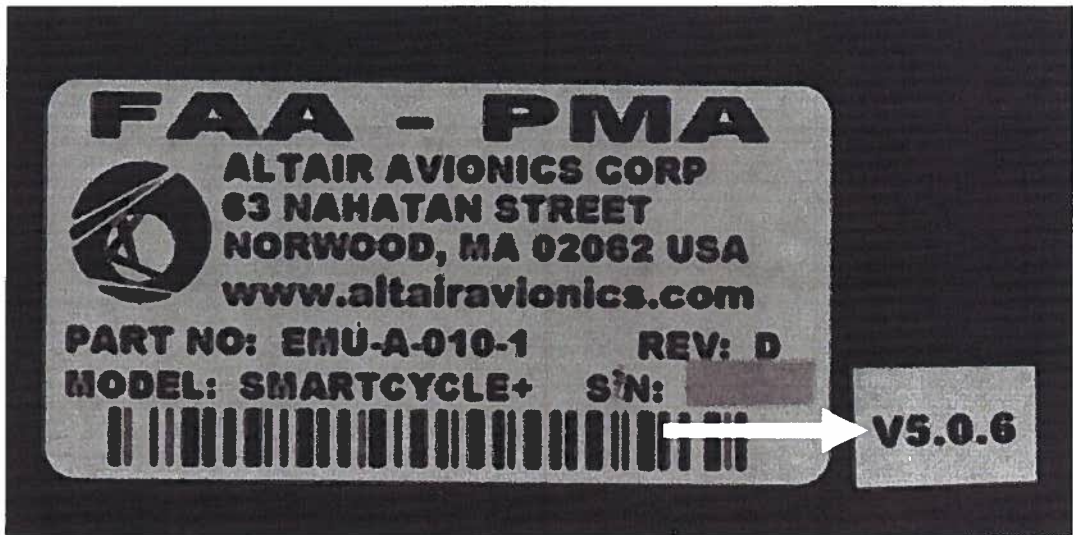

FIGURE 1 SOFTWARE VERSION DECAL
1. Locate the decal on the processor denoting the software version (Refer to Figure 1).